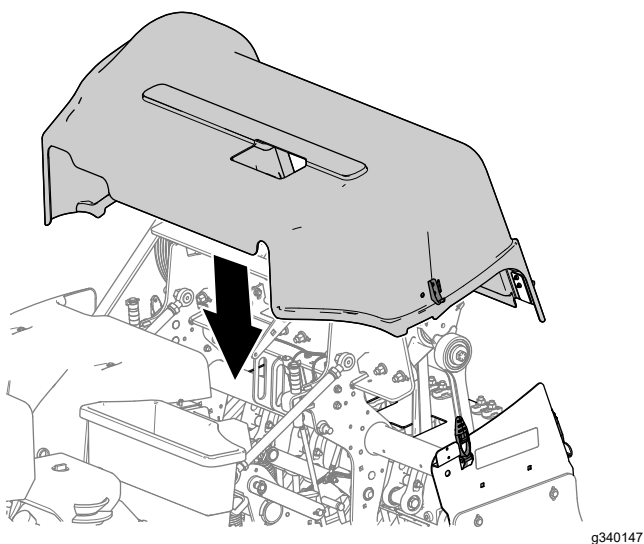

Figure 141
1. Align the coring-head cover to the machine as shown in Figure 141.